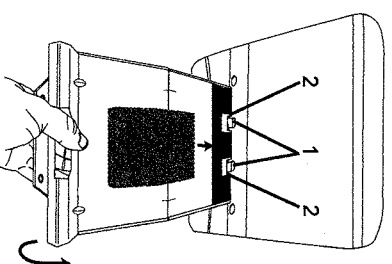

FIGURE 50
- 1.) INSERT THE TWO TABS ON THE FORWARD SIDE OF THE TOP DVD MOUNTING BRACKET (1) INTO THE TWO HOLES (2) IN THE ROOF BOW ABOVE THE MOONROOF BRACKET AS SHOWN. (SEE FIGURE 50)